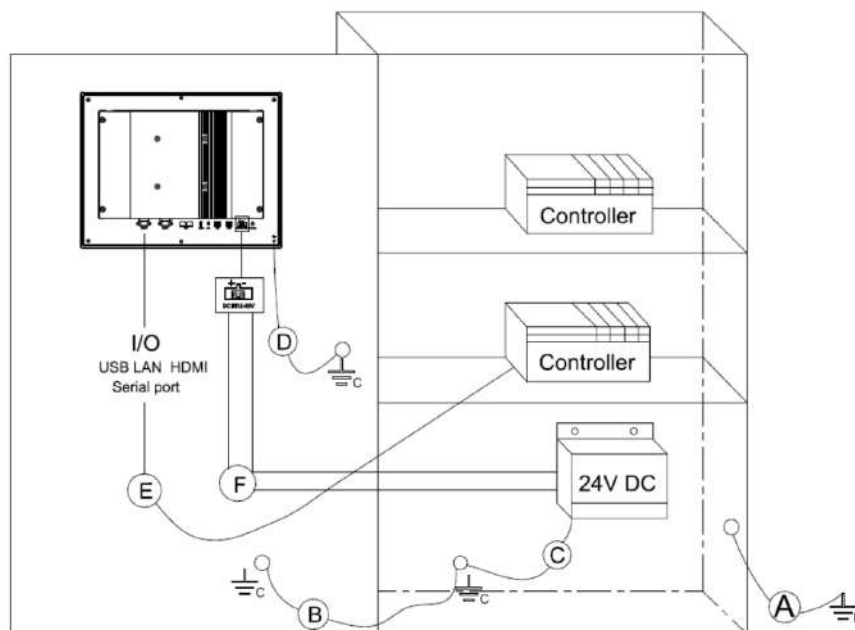

Figure 2.25 System Wiring Cabinet
3. Insert the hook brackets into the holes following the direction of the arrows shown in Figure 2.25 and hang the panel PC.